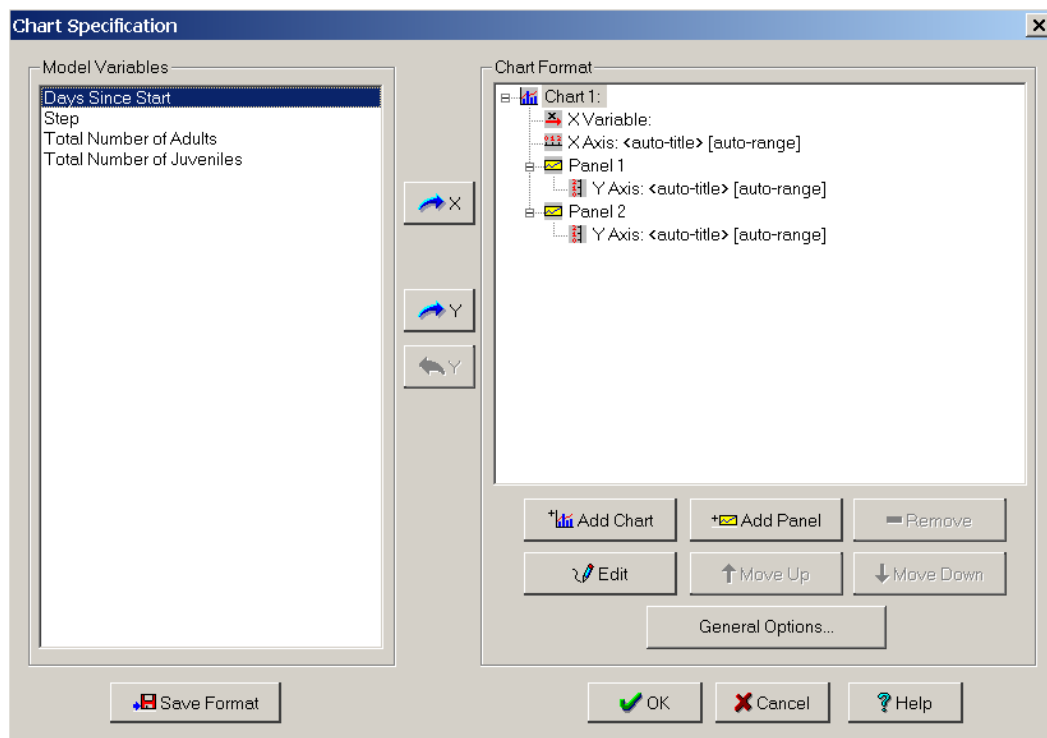

Figure 1-24 The “Chart Specification” dialog box
5. When the run has completed and the Run Window is being displayed, select the  button to give the “**Chart Specification**” dialog box (Figure 1-24)